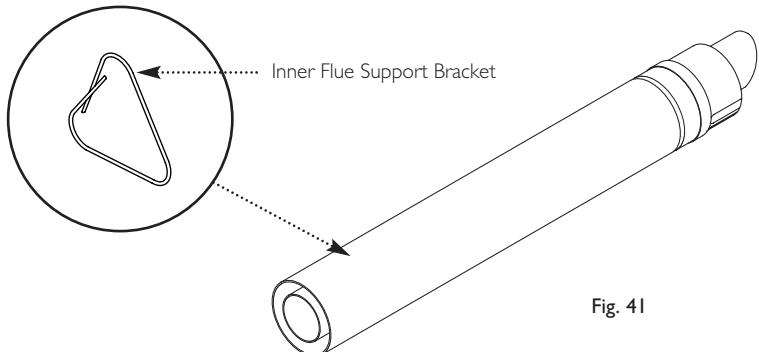

Fig. 41
7. Take the inner flue support bracket (if not already fitted) and engage it over the flue duct. This will centralise the flue and air ducts, and ease assembly (Fig. 41).